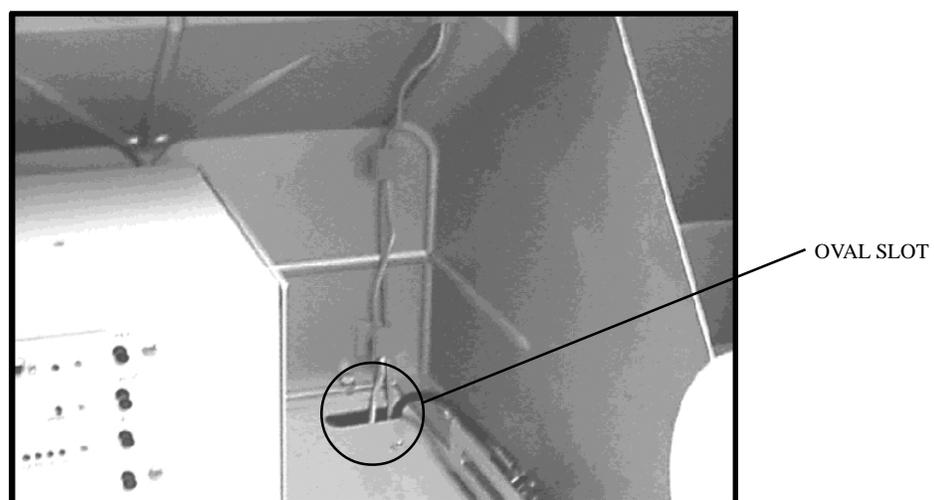

FIGURE 3-5
- Guide the tie-wrapped cables down the rear of the hood in the cable clips and through the oval slot for the power cables. In some cases the cables may fit more snugly if they are placed in the clips first. In these cases, temporarily remove the power cord, run the cables through the clips, then replace the power cord. (See Figure 3-5.)